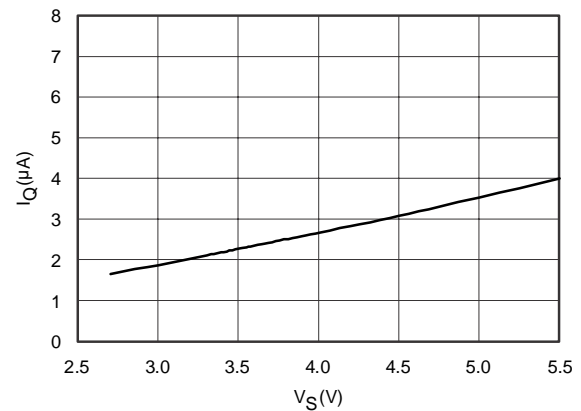

Figure 10. Shutdown Quiescent Current vs Supply Voltage
9.4.1 Shutdown Mode (SD)
The TMP411 shutdown mode saves maximum power by shutting down all device circuitry other than the serial interface, which reduces current consumption to typically less than 3 μ A; see Figure 10. Shutdown mode is enabled when the shutdown bit (SD) of the Configuration Register is high; the device shuts down once the current conversion is completed. When shutdown is low, the device maintains a continuous conversion state.